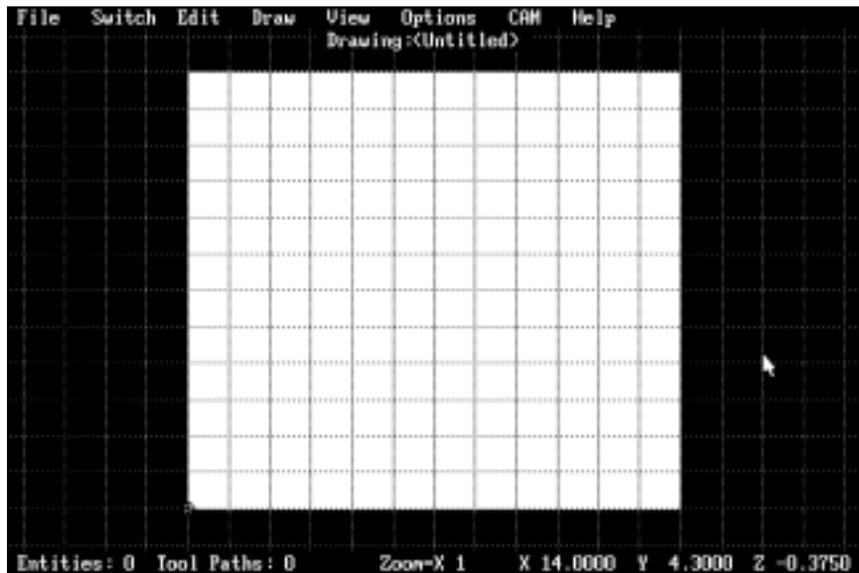

Figure 4.2.2 Startup Screen
1. Choose **Options-Load Setup** with the mouse or <ALT>-O L from the keyboard. Select ROUTER.MSU and choose [OK]. This will reconfigure MultiCAM Mill with the parameters entered in the previous section. The screen should now look like **Figure 4.2.2**.